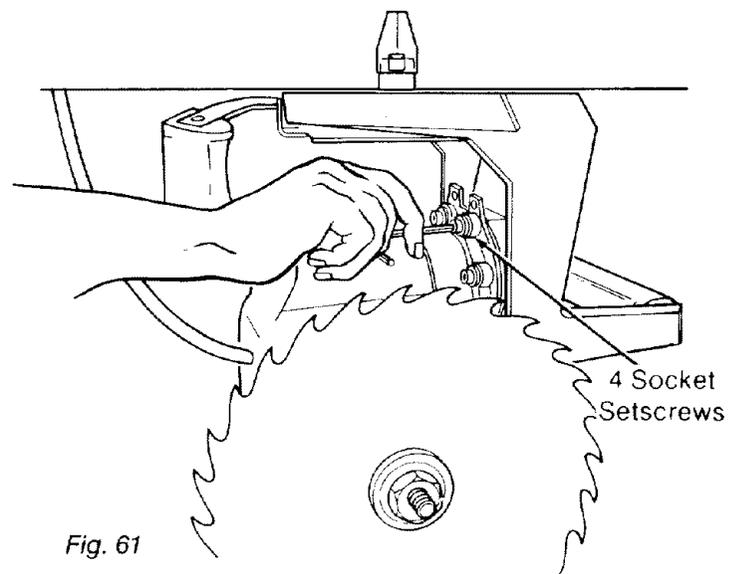

Fig. 61
9. Loosen the four screws behind the *yoke* using a $3/16$ inch hex-L wrench. (Figure 61)